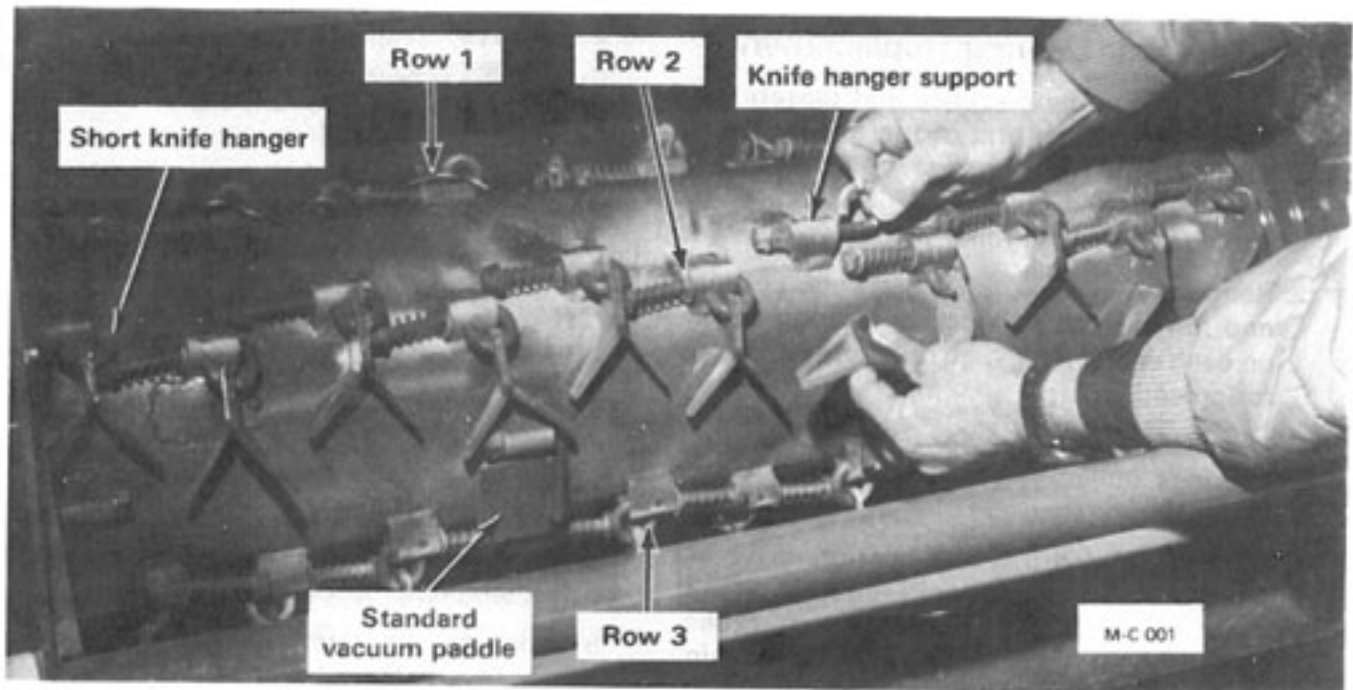

Figure 5
2. The knives can be reversed to expose a new cutting edge or replaced by pulling the knife hanger back until it clears the knife hanger support, see Figure 5. The knives can be sharpened on an electric bench grinder if desired.
**IMPORTANT:** To get the correct overlap of knives, the hangers must be installed as follows: (see Figure 5).
One short knife hanger is installed at the extreme left of row 2 as shown in Figure 5 and one at the extreme right of row 4 (hidden).